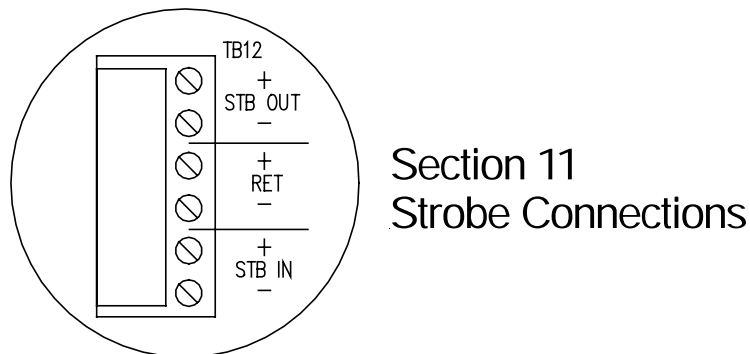

Figure 4-4 Strobe Connections
1. Connect the Strobe Appliance Circuit to the Strobe output STB OUT connection on TB12. Observe correct polarity. See Figure 4-1 for TB12's location. Figure 4-4 is an enlarged picture of the referred area. The Strobe Appliance Output Circuit is supervised. A UL Listed 10K Ohm, ½ W EOLR is required at the end of the circuit for proper supervision.